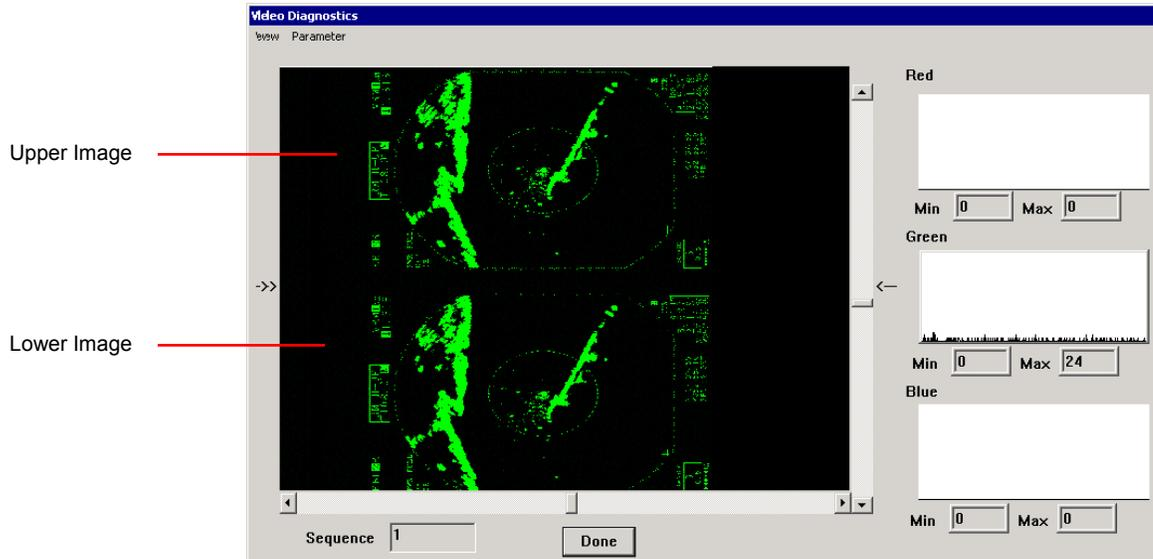

Figure 10-7 - VDi User Interface with Interlaced Image Capture
A video source may provide an interlaced image upon capture. An interlaced image will appear similar to the image shown in *Figure 10-7 - VDi User Interface with Interlaced Image Capture* with the captured image appearing vertically two (2) or three (3) times within the VDi Capture Window. If capturing an interlaced image, complete the steps provided below to adjust the video capture:
2. If the image(s) captured are not both entirely visible, the image height must be adjusted. Notice in *Figure 10-7 - VDi User Interface with Interlaced Image Capture* that the bottom portion of the lower image is not visible in the VDi Capture Window. Therefore the image height must be increased to make this lower portion visible. Select Parameter > Dimensions > Image Height and adjust the height as necessary.